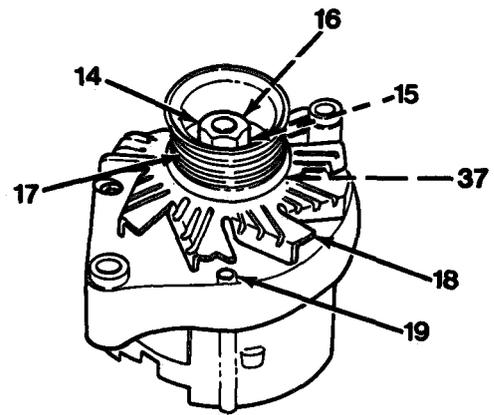

Figure 10-5
14. Using matchmarks, position front and rear housings and install four thru bolts (19, Figure 10-5).